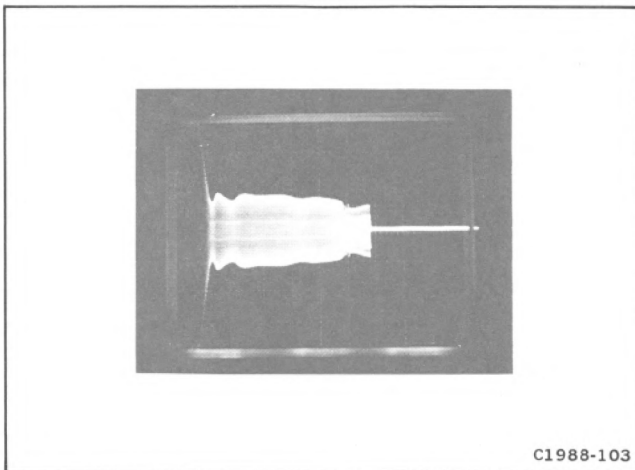

Figure 4-6. Current waveform of A23T30 showing burst operation at line voltage of about 60 volts.
4. If the 7904A continues in the pulse mode or continues to blow line fuses, check the current waveform through T30 on the A23-Power Supply Inverter circuit board. To do this, first repeat part 1 of this step. Then connect a current probe from the test oscilloscope to the gray lead that passes through toroid transformer T30. Set the test oscilloscope for a vertical deflection factor of about 1 volt/division and a horizontal sweep rate of 2 milliseconds/division. Connect the 7904A power-cord plug to the variable transformer which is set for 0 volt. Turn the 7904A on and slowly increase the variable autotransformer output to about 60 volts. Check for a burst waveform on the test oscilloscope (similar to that shown in Fig. 4-6).